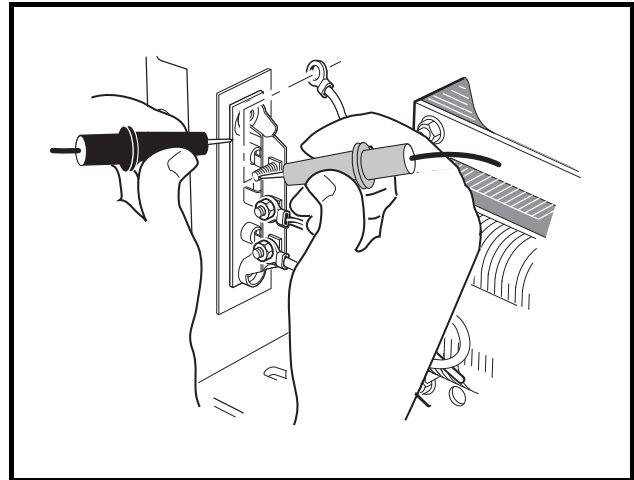

Figure 3-19 Diode Test – Probes Reversed
5. Reverse test probes and check each diode again and note the reading (**Figure 3-19, Page 3-21**). A diode is designed to conduct current in one direction only. If a diode conducts current (shows continuity) in both directions, the entire heatsink with diodes must be replaced. If a diode does not conduct current (does not show continuity) in either direction, the entire heatsink must be replaced.